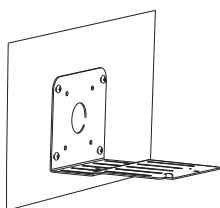

Figure 3-3
3.Align mounting bracket with hole; tighten screws. (Figure 3-3)